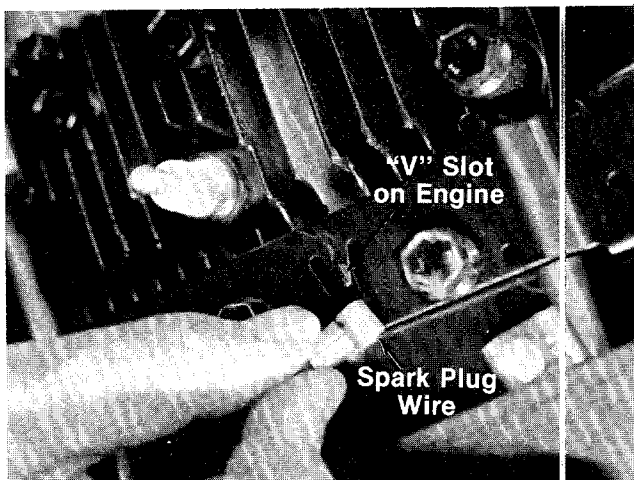

FIGURE 8.
10. To check the adjustment, disconnect the spark plug wire from spark plug to prevent accidental starting. Secure end of spark plug wire in the "V" slot on the engine. See figure 8. ← With the clutch grip released (neutral position), pull starter cord several times. **The tines should not turn.** If they do, adjust the hex nuts at the clutch cable bracket. Check again for correct adjustment.
Remove the spark plug wire from spark plug and ground against the engine block (secure in "V" slot) before making any adjustments or performing maintenance. See figure 8.